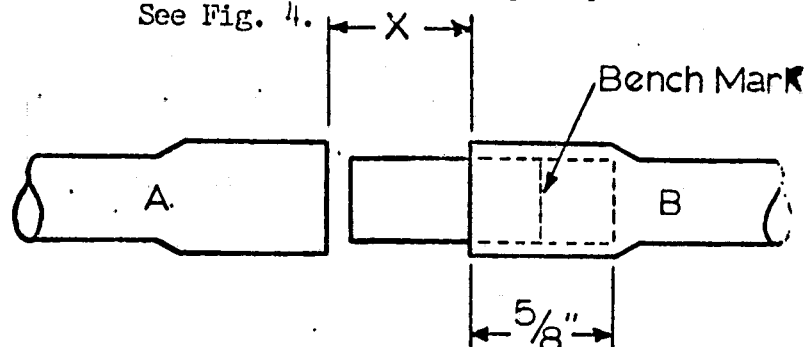

Figure 4
i) Insert the four (4) male coupling nipples into the swedges of collector "B" until they stop. See Fig. 4.
j) Carefully place collector "B" into position. Note there is only $\frac{1}{8}$ " gap between end of header swedge and edge of nipple. See Fig. 4.